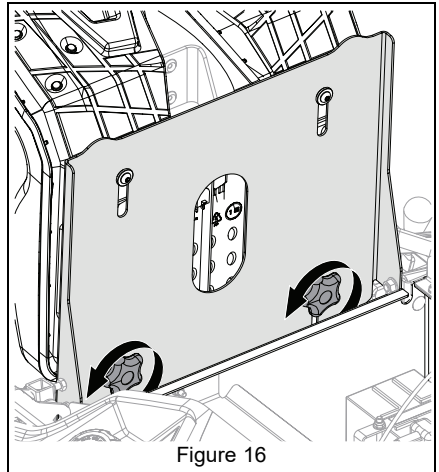

Figure 16
2. Loosen the two wing knobs located toward the front of the seat plate. See Figure 16.